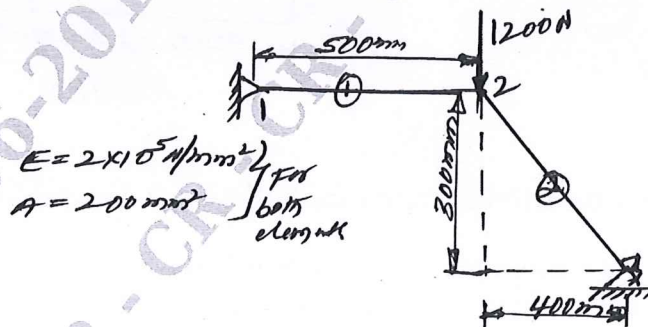

Fig.Q4(b)
- b. For the two-bar truss shown in Fig.Q4(b), determine the displacements, stress in each elements and reactions at the support. (10 Marks)